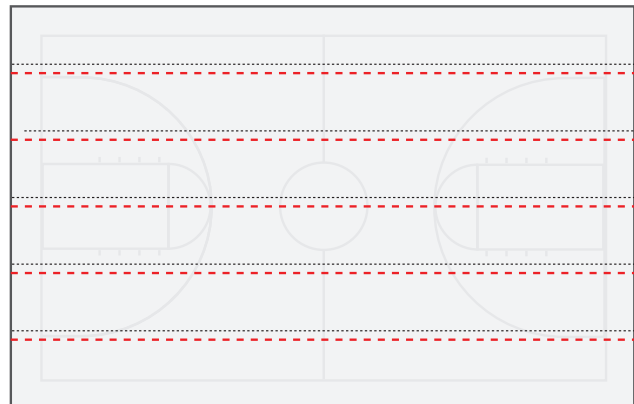

Figure 3
- Adhere EMSS along the perimeter (see figure 3) if needed.